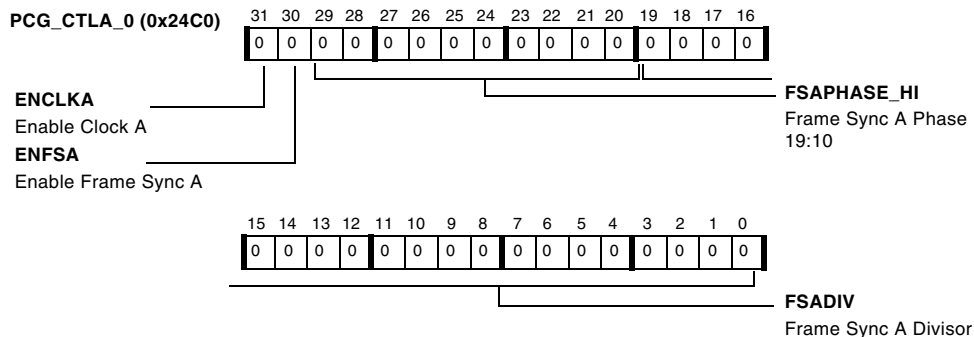

Figure A-56. PCG\_CTLA\_0 Register
- PCG\_CTLA\_0, described in Figure A-56